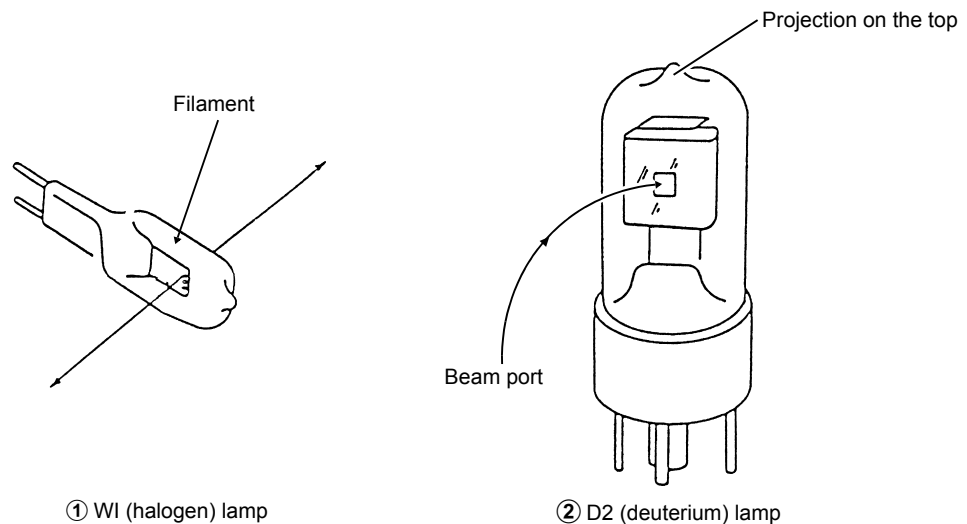

Fig.4-5 Light Source Overview
- When removing and installing the light source compartment cover, avoid hitting the protrusion (Fig.4-5) on the top of the D2 (deuterium) lamp against the back of the cover. Doing so may cause a vacuum leak in the lamp tube.